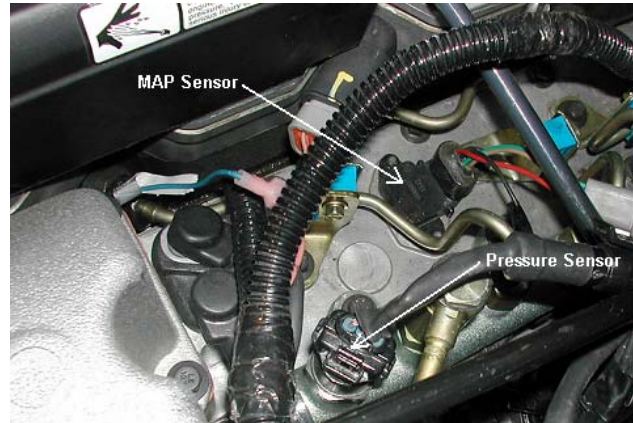

FIGURE 1A
**Harness Connector** – Your Mileage Max module will be equipped with a harness that can be disconnected at the module itself (See figure 1A). It is important to make sure that your Mileage Max module is always connected to the harness when the wiring harness is connected to the truck, otherwise the truck may not run properly, or may trip engine “codes.”